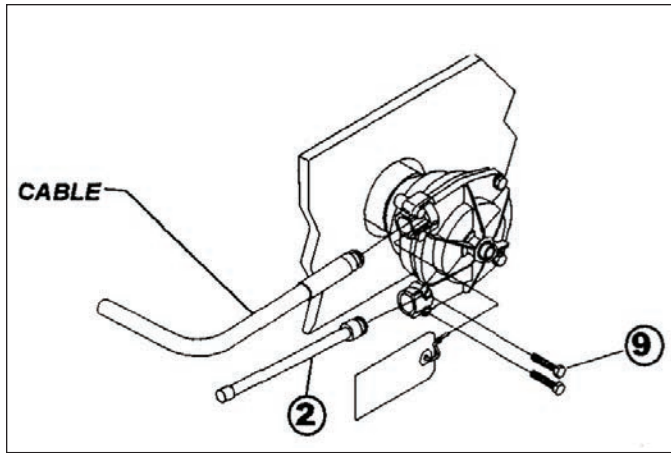

Figure 5.
**STEP 2.** Remove protective sleeve from cable end, making sure that dirt does not get onto the lubricated cable end. Feed cable end into the **UPPER** Helm entry spigot until it contacts the internal gear, then turn the steering wheel counterclockwise to draw the cable fully into the helm, (see figure 5). Continue turning the steering wheel until the end fitting of the cable is fully inserted into the entry spigot, and wheel cannot be turned further. During this you should hear a click as the locking mechanism engages. Turn steering wheel fully in the other direction until it cannot be turned any further, and check that cable end fitting is retained inside the entry spigot.
**STEP 5.** Feed spent travel tube (item 2, Figure 5) over the exposed cable end until it is fully seated in the helm. Secure the tube to the helm with bolts (item 9) and tighten fully.